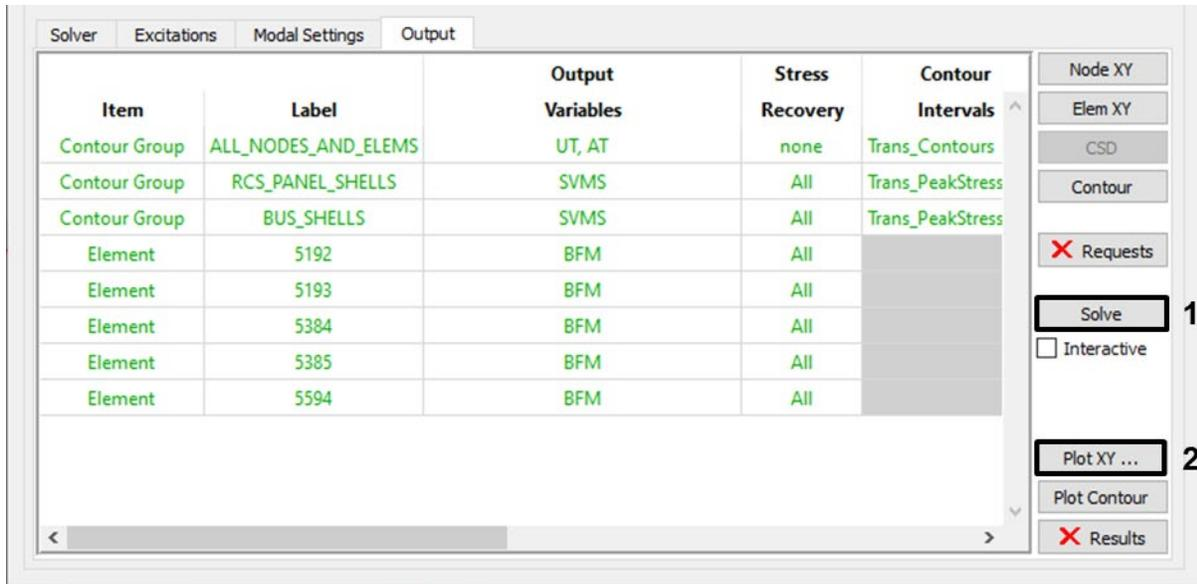
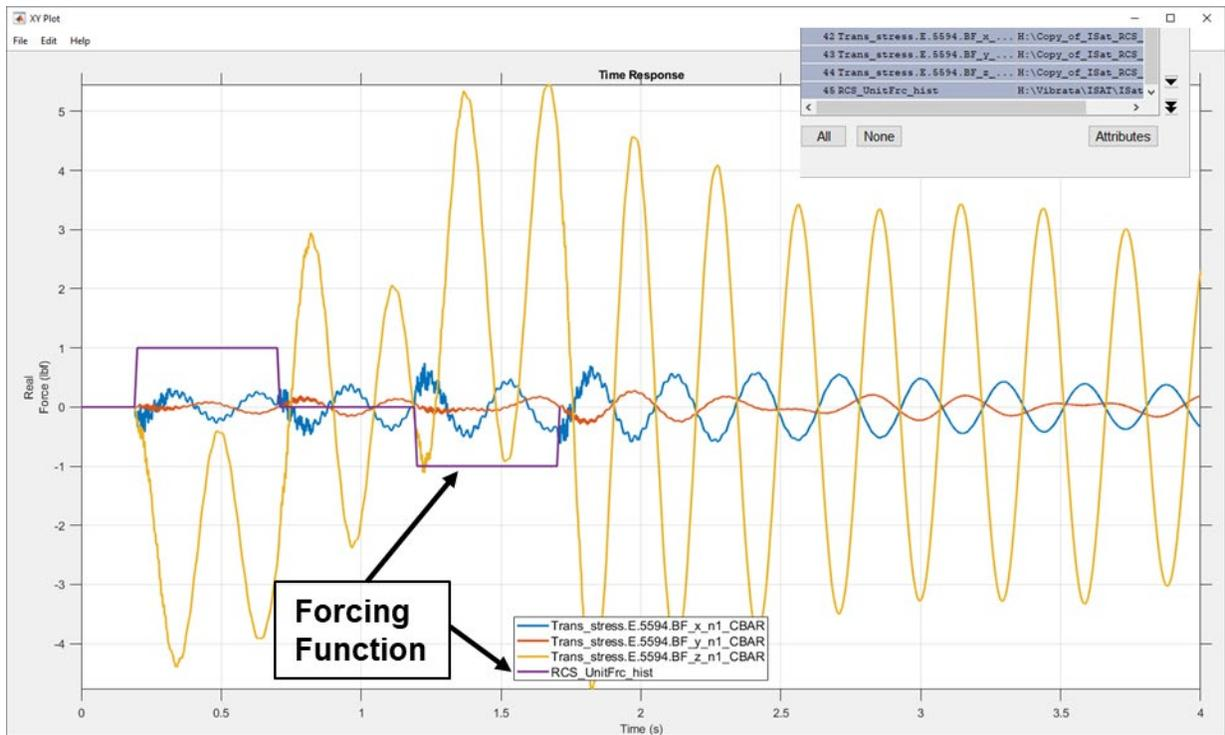

Figure 4-107. Solve the new Element XY requests and plot them.
Figure 4-108. Forces in IP boom connector; note effects of thruster start/stop.
- Solve again and then click **Plot XY** (Figure 4-107). The forces in the instrument package boom element are shown in Figure 4-108, which also shows when the thrusters are firing. Note that we have displayed the forcing function on the plot to make clear when thruster firing starts and stops. Display the other element responses as you wish.